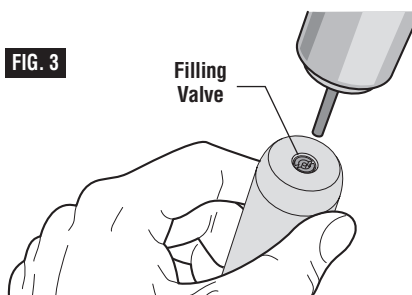

FIG. 3
1. Hold the VersaTip with the Filling Valve facing up, then invert fuel container and insert the tip into the Filling Valve as shown in Figure 3.